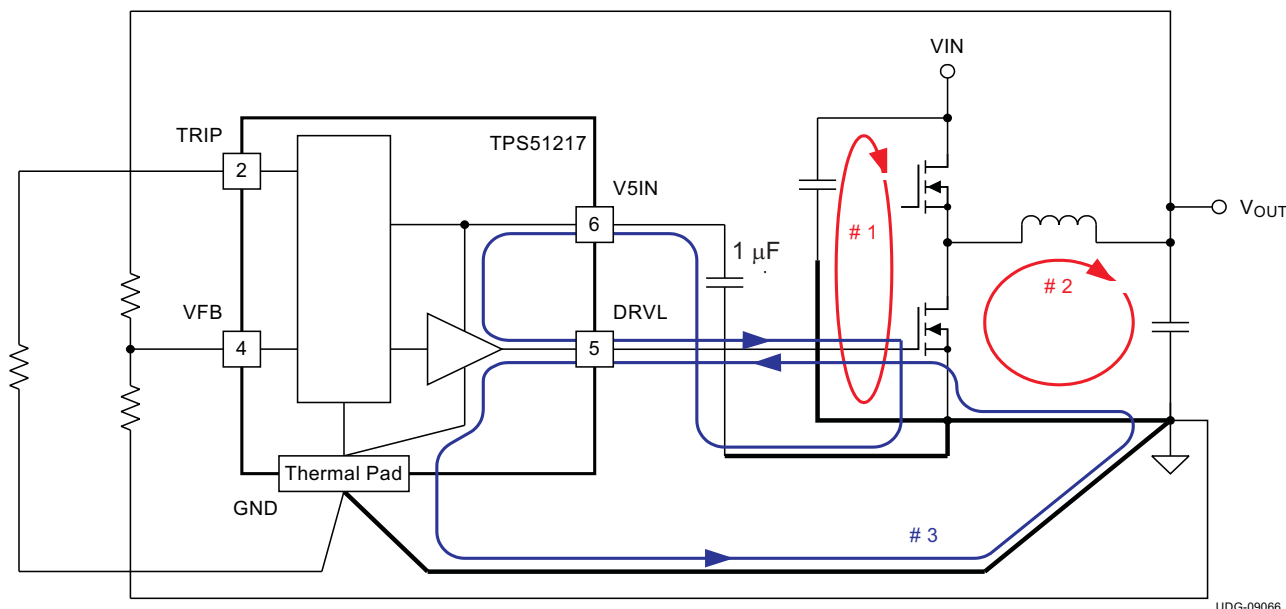

Figure 24. Ground System of DC/DC Converter Using the TPS51217
- The most important loop to minimize the area of is the path from the V_{IN} capacitor(s) through the high and low-side MOSFETs, and back to the capacitor(s) through ground. Connect the negative node of the V_{IN} capacitor(s) and the source of the low-side MOSFET at ground as close as possible. (See loop #1 of Figure 24)
- The second important loop is the path from the low-side MOSFET through inductor and V_{OUT} capacitor(s), and back to source of the low-side MOSFET through ground. Connect source of the low-side MOSFET and negative node of V_{OUT} capacitor(s) at ground as close as possible. (See loop #2 of Figure 24)